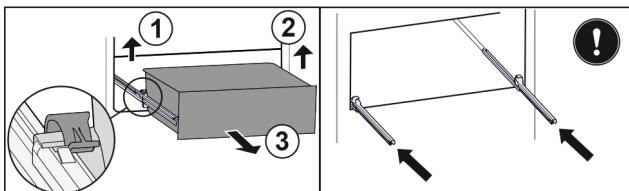

Fig. 118
- ▶ Lift left clamp and simultaneously pull drawer forwards on the left. Fig. 118 (1)
- ▶ Lift right clamp and simultaneously pull drawer forwards on the right. Fig. 118 (2)
- ▶ Remove drawer to the front. Fig. 118 (3)